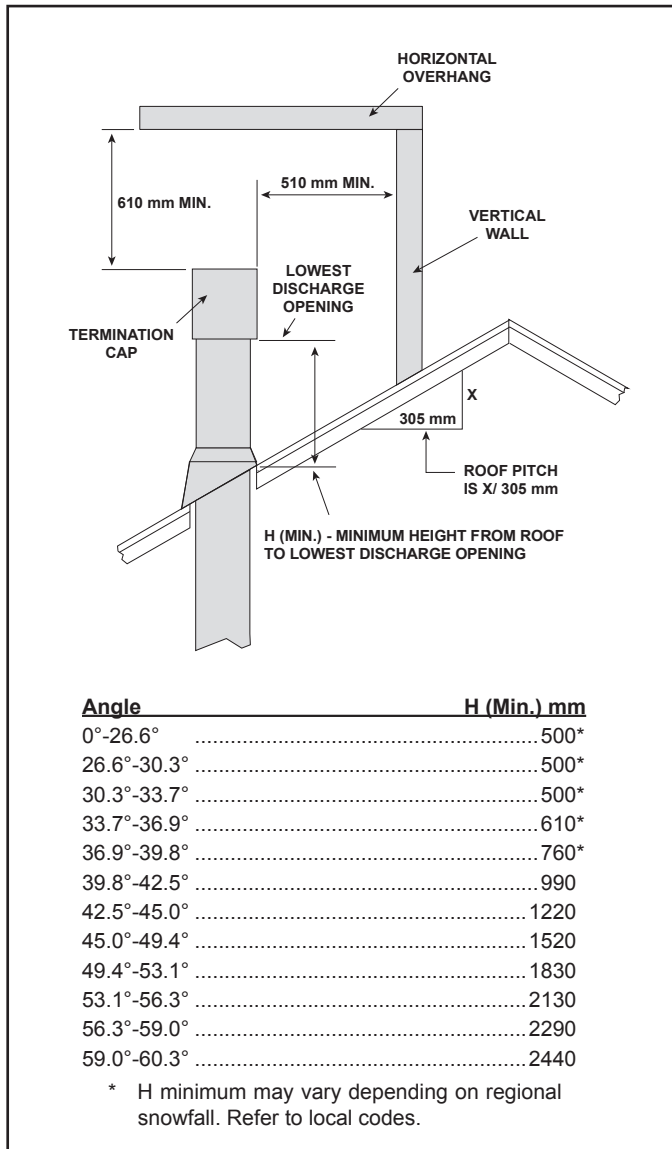

Figure 7.12 Minimum Height From Roof to Lowest Discharge Opening
- See minimum vent heights for various pitched roofs (Figure 7.12) to determine the length of pipe to extend through the roof.